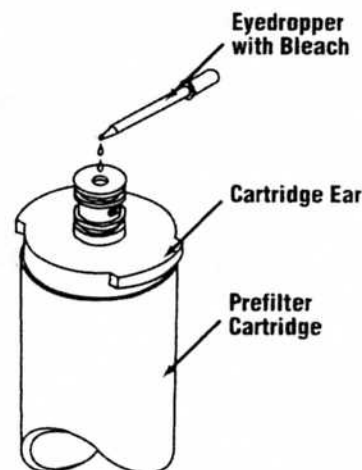

Figure 9
- 3) Before installing the new cartridge, use an eyedropper to inject one teaspoonful (approximately 5 ml) of household bleach into the center opening of the filter cartridge. The prefilter is located just before the RO membrane cartridge. (See Fig. 9)